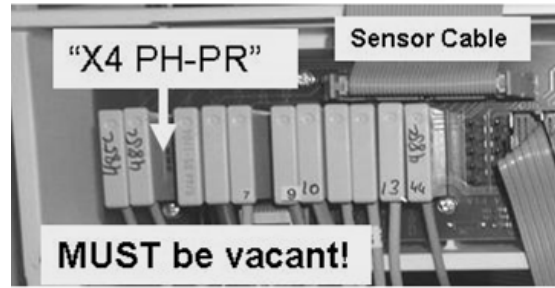

Figure 113A – 24V POWER Harness
- c) Per Figure 113A below, at the rear of the card cage, ENSURE the 24V POWER harness is plugged in securely with the orange wire to the left. **If not, this may be the problem!**